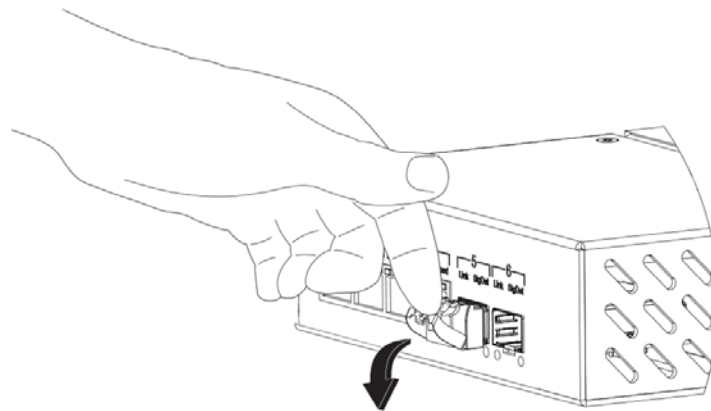

Figure 14. Releasing the latching mechanism
3. Release the latching mechanism (see figure 14).